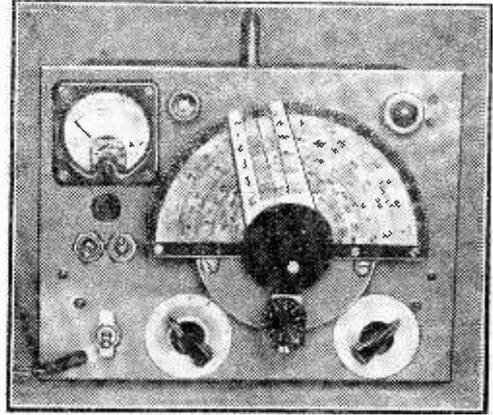

Fig. 2.—The panel layout.
If no provision is made to separate the traces, the pattern will appear on the C.R.T. as in Fig. 2(1a). As most double-beam
Fig. 2.—Waveforms associated with electronic switch circuits. (Not to scale.) (1) Simple circuit. (2) Gate circuit. (3) Triode-Hexode (anode wave-forms as in (2)).